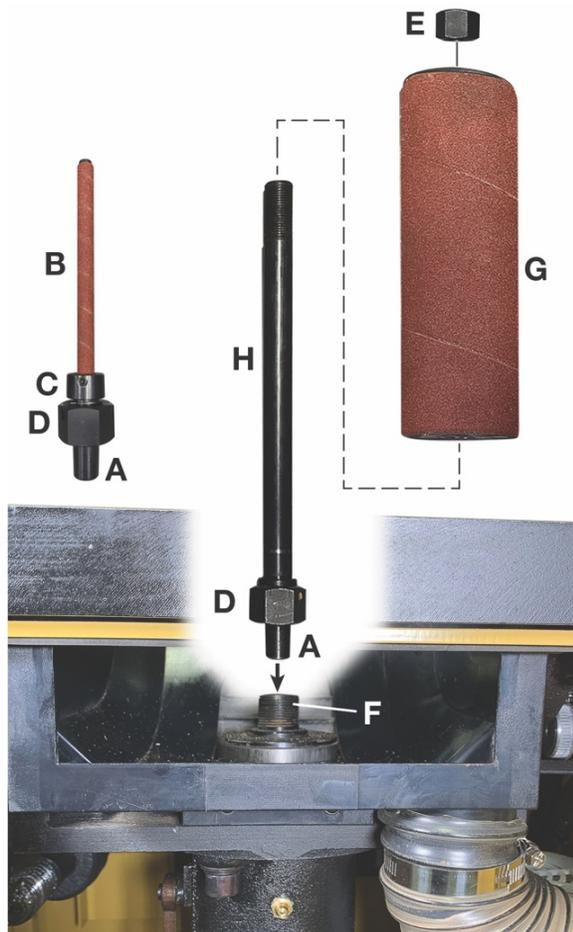

Figure 6-6: Spindle and Drum Mounting
Note: Before disconnecting sander from power source, turn on oscillating motor. Turn off oscillating motor when the spindle main shaft (F, Figure 6-6) is at its highest position in the oscillation cycle. Turn machine off using the main power switch and disconnect sander from power source at this time.
Thoroughly clean tapered area (A, Figure 6-6) on all spindle assemblies before installing. Also, clean main shaft (F) on sander.